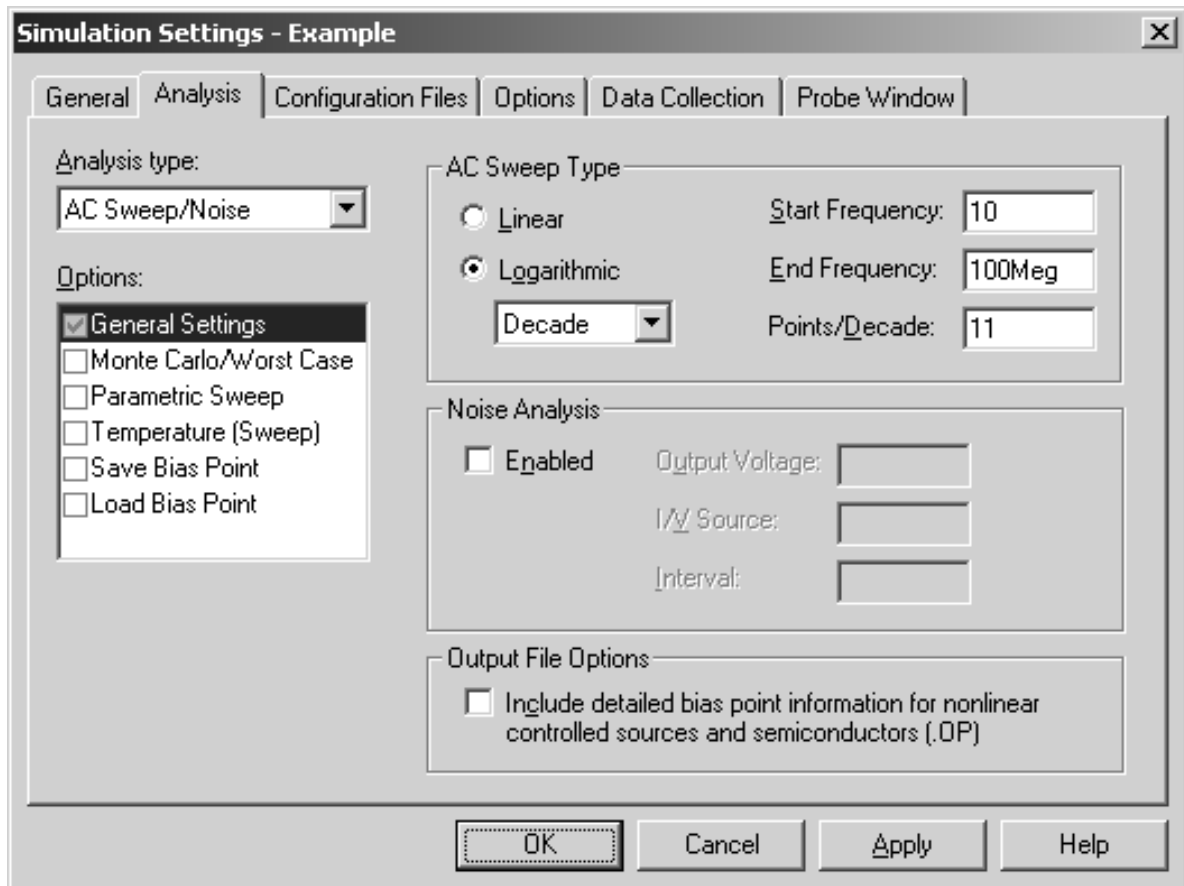

Figure 2-21 AC sweep and noise analysis simulation settings.
4. From the Analysis type list, select AC Sweep/Noise and enter the settings shown in Figure 2-21.